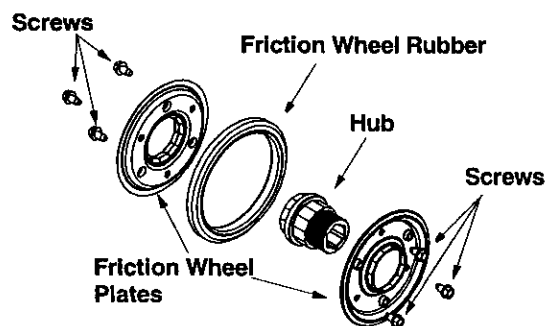

Figure 28
- Remove the six screws from the friction wheel assembly (three from each side). See Figure 28.
- Reassemble new friction wheel rubber to the friction wheel assembly, tightening the six screws in rotation and with equal force. See Figure 28.